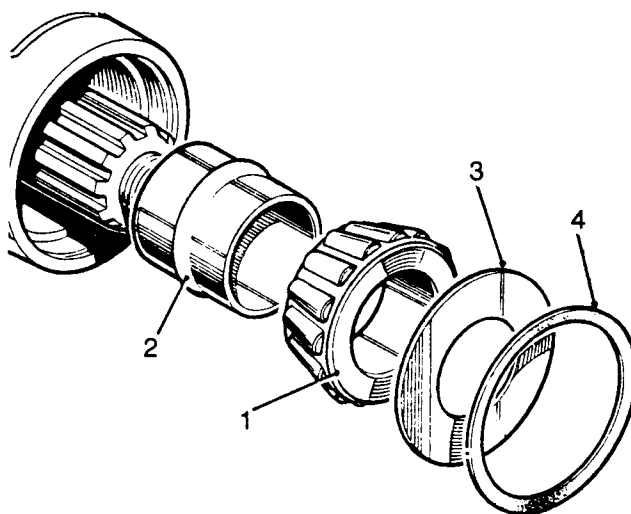

Fig J2.38
- (9) Refer to Fig J2.38. When the pinion setting is satisfactory, temporarily remove the pinion outer bearing cone (1).
- (10) Fit a new collapsible bearing spacer (2) flared end outward, to the drive pinion and refit the outer bearing cone.
- (11) Fit the pinion oil slinger (3).
- (12) Fit the oil seal gasket (4).